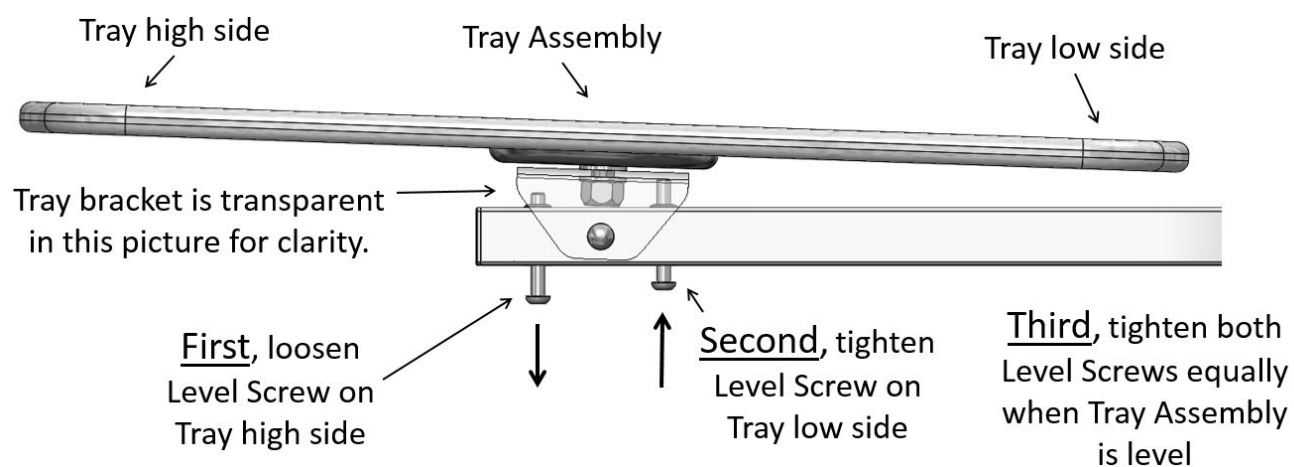

FIGURE 10
9. The Tray Assembly can be leveled by using the Small Allen Wrench. Loosen the leveling screw on the high side and then tighten the screw on the low side. When the Tray Assembly is level, tighten each screw equally as shown in FIGURE 10.